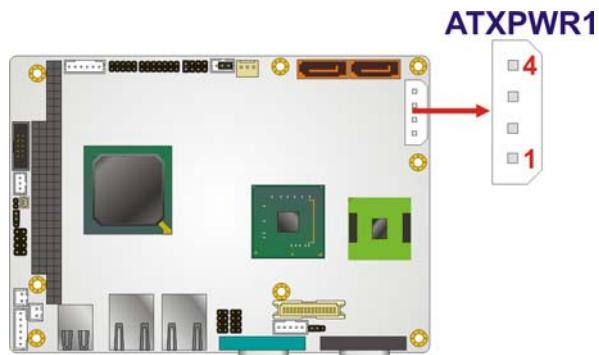

Figure 3-3: ATX Power Connector Location
**CN Location:** See Figure 3-3